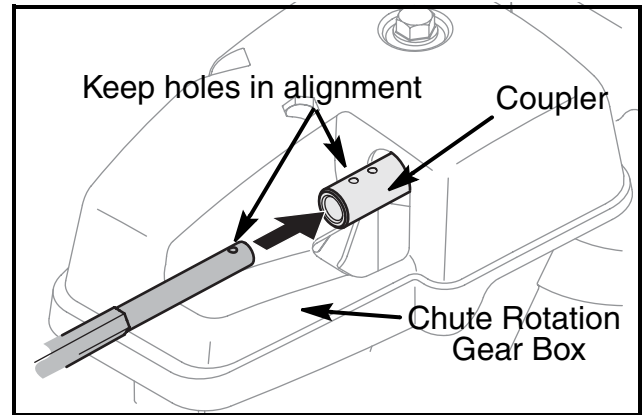

FIGURE 21
35. Insert hex rod into chute rotation gear box coupler. Push hex rod as far into the chute rotation gear box coupler as possible, keeping the hole in the hex rod pointing upward. See Figure 21.